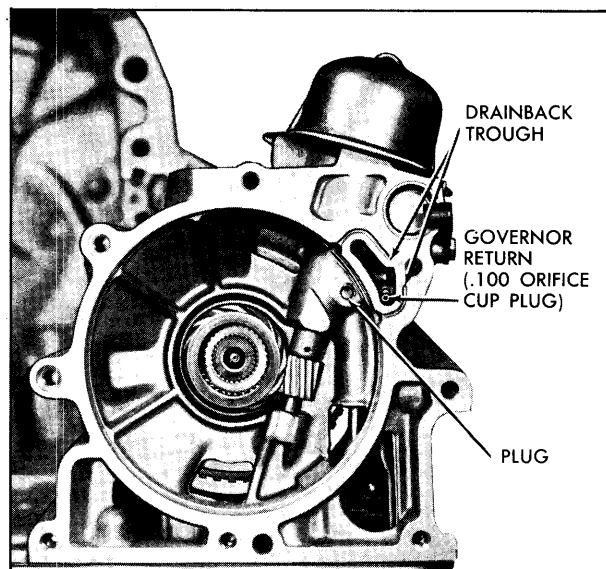

Fig. 7E-236 Oil Passages
B. Oil Pressure Low - Refer to Oil Pressure Chart Fig. 7E-238 for specifications.